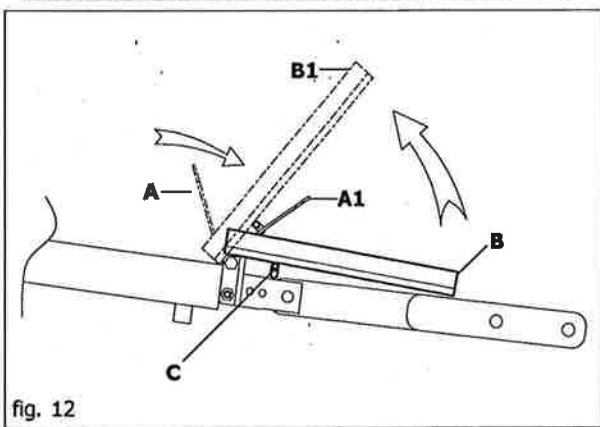

fig. 12
To operate the device, put the spring (A Fig. 12) in position A1, to rest behind the peg (C Fig. 12), so that the cylinder bracket (B) is released forwards towards position B1.